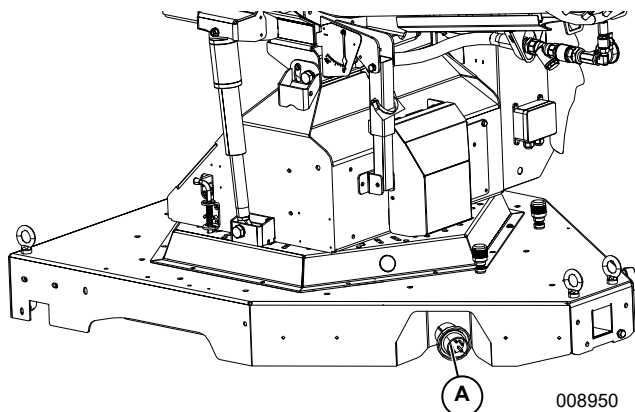

Figure 3-3. Electrical Connection
- See **Figure 3-3**. Verify power source is properly connected to socket (A). For power requirements and setup, see **Connecting Power Supply**.